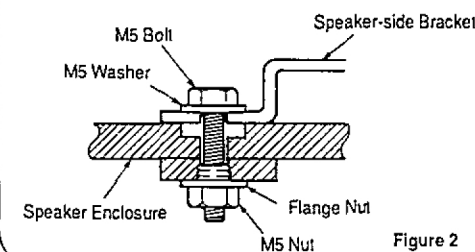

Figure 2
- For wooden speaker enclosures, if it is possible to open the enclosure, use double M5 nuts and the included flange nut to firmly secure the assembly. (Figure 2)
- The ceiling-side bracket requires four (4) bolts, four (4) nuts, and eight (8) washers. M6 (or W1/4, 1/4-20 UNC) sizes are recommended.
- The speaker-side bracket requires two (2) M5 bolts and two (2) M5 washers. (When using enclosures as shown in Figure 2, two (2) M5 nuts must be provided as well.)